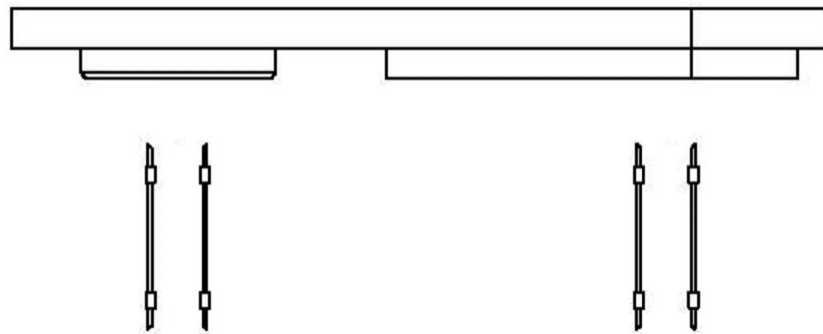

Figure 6. Top Plate Cable Connection
5. Identify the left loudspeaker top plate and fit one black and one red cable to each pair of sockets as shown in figure 6.